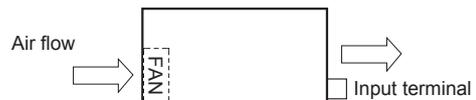
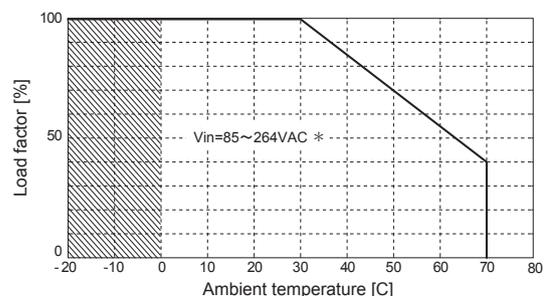

Fig. 6.4 Air flow (-F2)
Fig. 6.5 Ambient temperature derating curve (PCA1500F-5-F2)
■Differences from standard versions are summarized in Fig. 6.4 and Fig. 6.5.